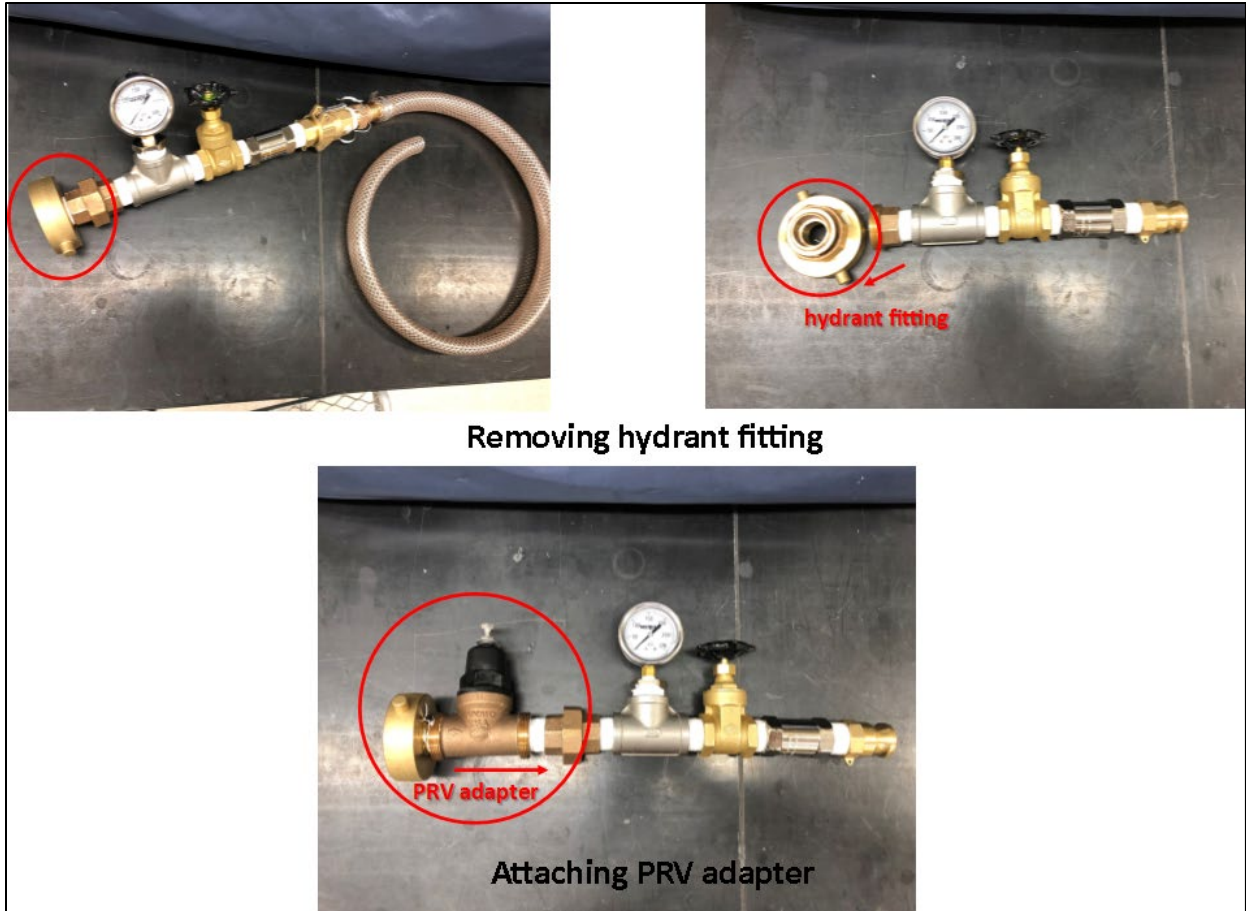

Figure 1. Removing hydrant fitting and attaching PRV adapter
2. Ask the water system operator for the approximate pressure at the sample location. If the pressure is > 125 psi at the sample location, install a pressure reducing valve (PRV) adapter. **See Figure 1.**